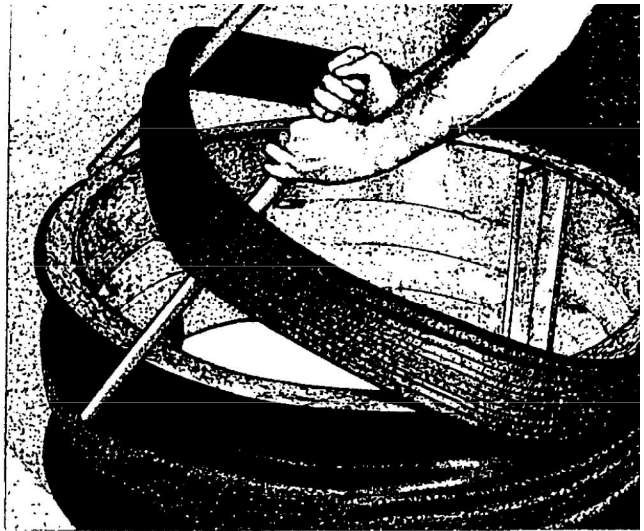

FIGURE 4
3. Refer to FIGURE 4. Carefully stretch the end element over the joint tester (by hand or with the aid of pry bars) and into the top channel section of the frame. Corn starch, silicone, or soapy water may be used if desired.